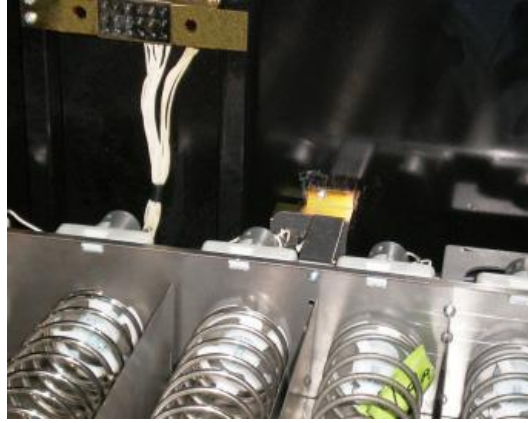

Figure 11A
29. Peel the remainder of the protective film from the double sided tape and carefully slide the tray into the machine. Be certain that the plugs stay connected and guide the wire to clear the tray and other componentry (Figure 11A).